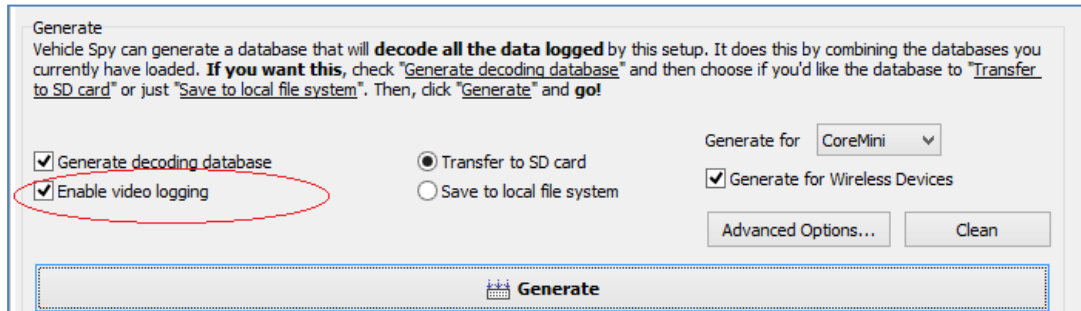

Figure 6: Checkbox for enabling Video Logging
- Check 'Enable video logging' checkbox from Generate option of standalone logging tab to enable video logging (Figure 6).